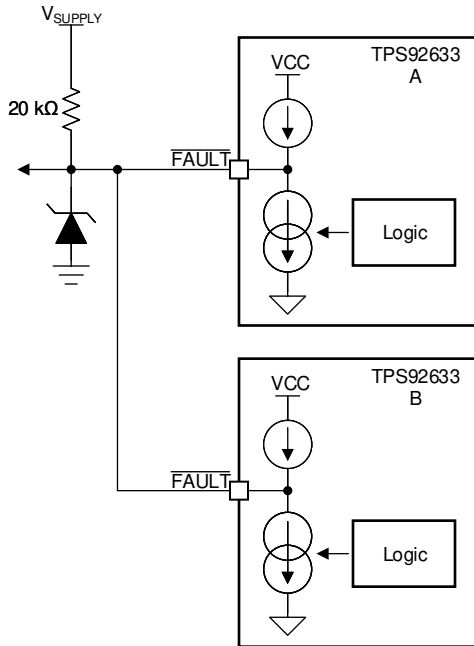
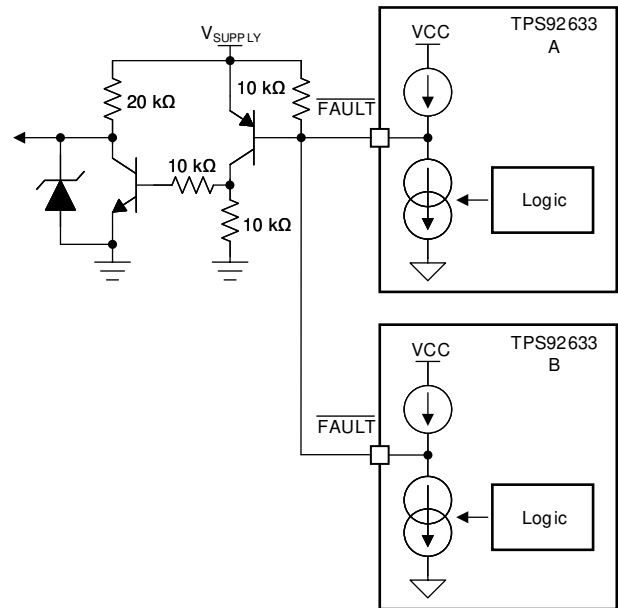

图 7-12. FAULT Bus for One-Fails-All-Fail Application
图 7-13. FAULT Bus for One-Fails-Others-On Application
Based on this feature, the TPS92633 device is able to construct a FAULT bus by tying FAULT pins from multiple TPS92633 devices to achieve one-fails-all-fail function as 图 7-12 showing. The lower side TPS92633 (B) detects any kind of LED fault and pulls low the FAULT pin. The low voltage on FAULT pin is detected by upper side TPS92633-Q1 (A) because the FAULT pins are connected of two devices. The upper side TPS92633 (A) turns off all output current for each channel as a result. If the FAULT pins of each TPS92633 are all connected to drive the base of an external PNP transistor as illustrated in 图 7-13, the one-fails – all-fail function is disabled and only the faulty channel is turned off.